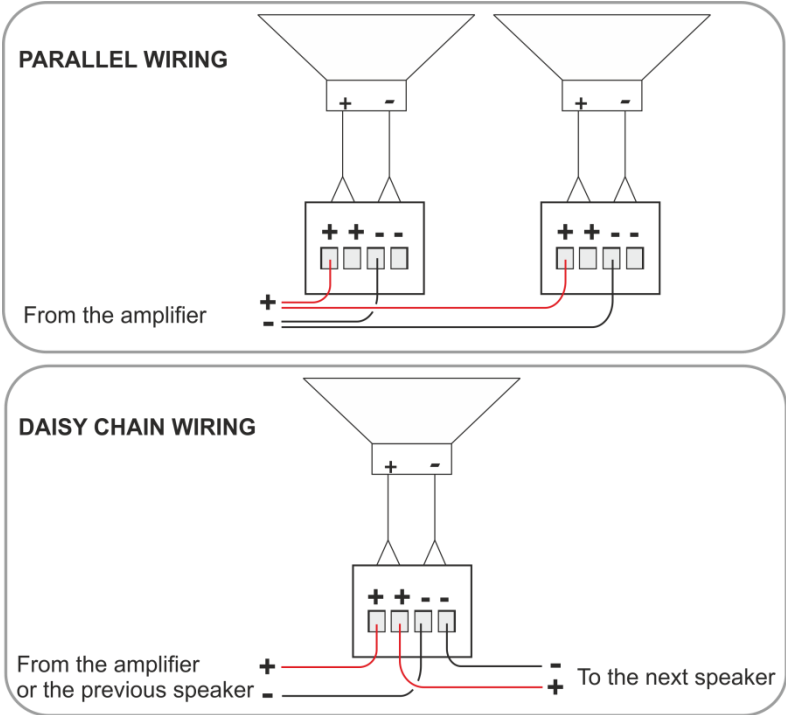

Figure 3: Closed-back Ceiling Speaker Schematic Diagram
Figure 3 shows a schematic diagram of the Closed-back ceiling speaker:
- **Wiring in parallel:** connect the amplifier directly to each of the speakers. When one input connector is removed, subsequent speakers will remain connected (see Figure 3)
- **Daisy-chaining:** connect the wire pair (+ and -) of the speaker to the subsequent speaker + and -. When one input connector is removed, subsequent speakers will be disconnected (see Figure 3)